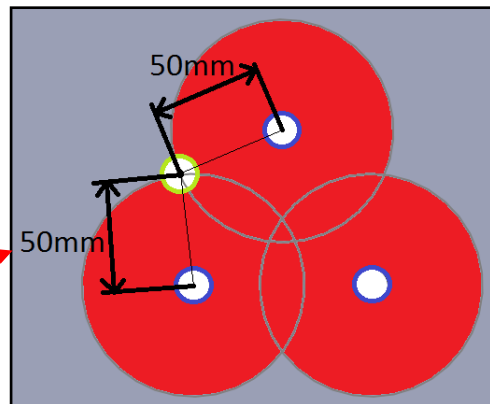

Figure 1
5. Hole centres **cannot** be closer than three times the diameter of the largest hole. If the diameter of the holes is less than 17mm, the centre of the holes must be 50mm apart. This is explained in detail in Figures 1 to 5.
This section explains rule 5 in more detail. In Figures 1 to 5:
If the diameter of any new hole/s **and** the diameter of any existing hole/s is **less** than 17mm, the centre of the new hole/s must be at least 50mm away from the centre of any existing hole/s. All hole diameters are less than 17mm in Figure 1:
Taken from "KC-AA201FIG1" – general – 2008